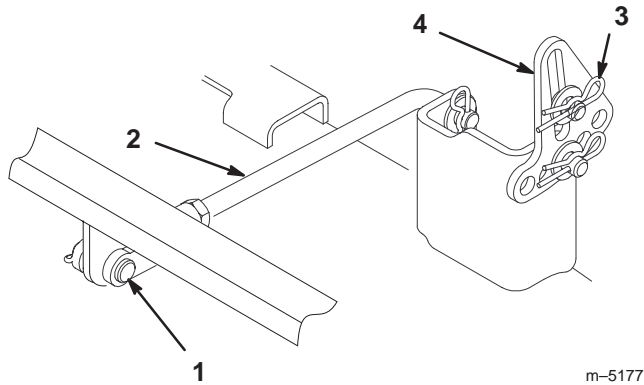

Figure 42
- Remove the hairpin cotter and clevis pin from the rear trunion rod (Fig. 42) on each side of the mower.
- Remove the hairpin cotter and washer at the mower leveling brackets (Fig. 42) on each side of the mower. Note which hole the leveling bracket is mounted in for future installation. Slide the brackets off of the mounting pin.
- Attach the rear trunion rod to the tractor with the clevis pin and hairpin cotter (Fig. 42) on each side of the mower.
- Slide the leveling brackets onto the mounting pins and secure them with the washers and hairpin cotters (Fig. 42).